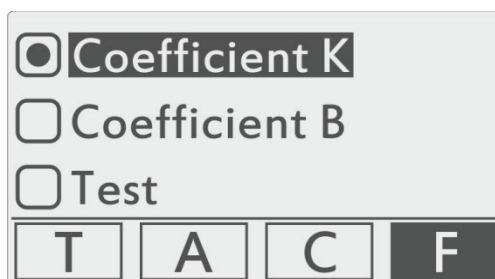

Figure 15 – Menu for working with coefficients
9. After entering the concentrations and measuring the entered number of samples, the calibration curve (Figure 15) will be constructed, the coefficient of correlation r and calibration equation, which is saved in the instrument memory and will be available in the mode "Load Curve" (item 8.10.2).
3. The calibration curve (Figure 15) will be constructed on the screen; the coefficient of correlation r and calibration equation will be indicated.
4. The further work is fully similar to that described in the previous item (8.10.1) starting from the operation 9.